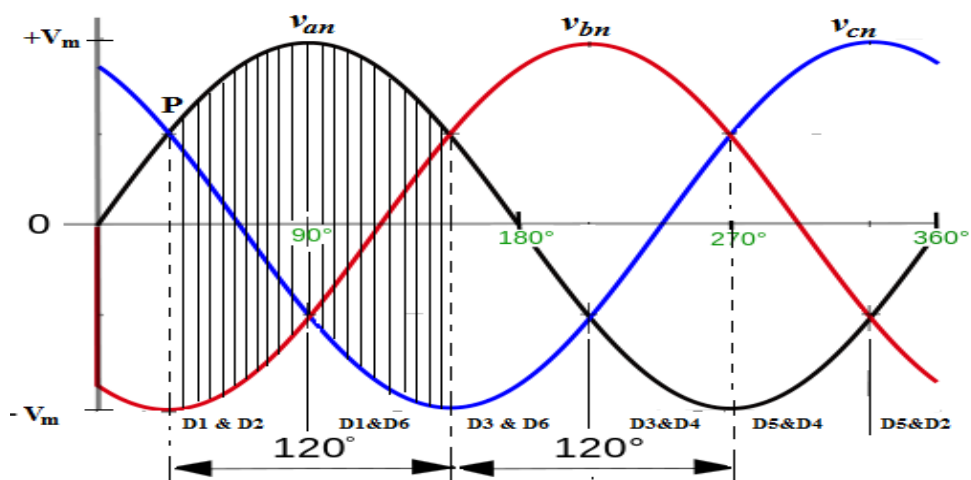

Fig.5.5 Each diode conducts for  $120^\circ$ .
- Each diode conducts for  $120^\circ$  in each supply cycle as shown in Fig.5.5.